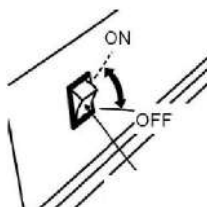

Fig. 22
- Check if the ignition switch is at ON position. (Fig. 22)